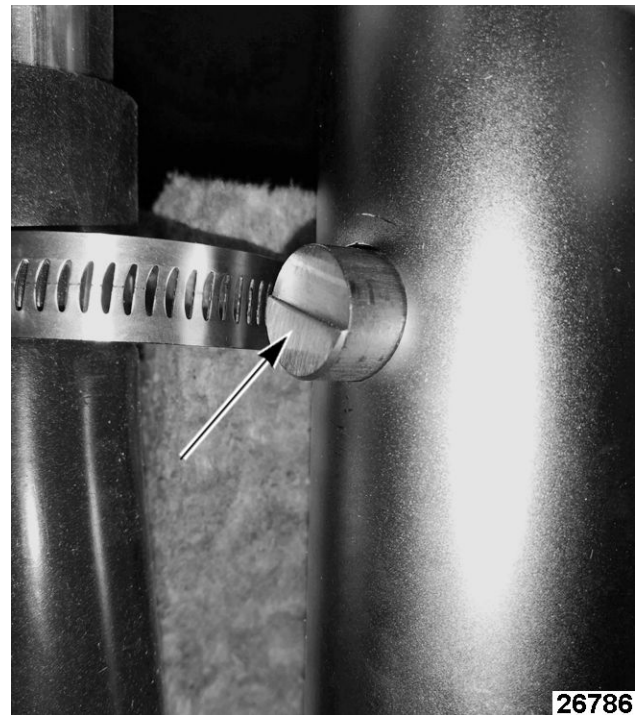

Fig. 105
3. Rotate damper camshaft (using a pair of channel locks) until indicator on the end of the camshaft is at diagonal (Fig. 105).